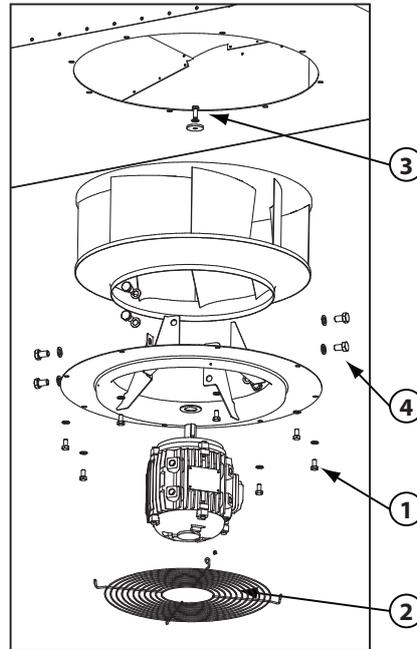

Figure 8. Removal of motor
- 5 Loosen the motor arrangement (eight M8x16) (1, fig. 8) from the fan casing and take it down. The arrangement requires two people to take down safely. Make sure to pull the motor cable completely free of the fan casing.
- 6 Leave the wire guard affixed to the inlet nozzle (2, fig. 8).
- 7 Remove the impeller by removing the motor shaft screw (3, fig. 8).
- 8 Disconnect the motor from the inlet nozzle. It is attached with eight 12x20 screws (4, fig. 8).
- 2 Affix the motor to the inlet nozzle with the eight 12x20 screws (4, fig. 8).
- 4 If the wire guard has been removed, then affix it to the inlet nozzle with four blind rivets 3.2x10 of stainless steel grade A2 (2, fig. 8).
- 5 Support and place the motor arrangement in the fan casing. Make sure to pull the motor cable along the same route as from the factory. The arrangement is attached with eight M8x16 screws (1, fig. 8).